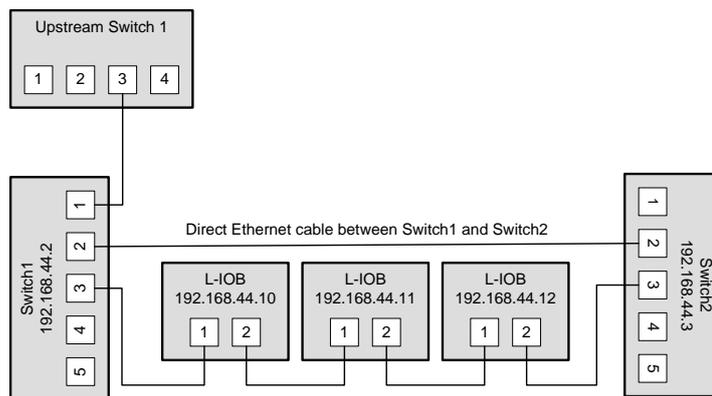

Figure 80: Single upstream connection.
**Single upstream connection:** Switch1 (or Switch2, but not both) is connected to the upstream network while Switch2 only provides a redundant path to the LOYTEC devices. The redundant path is created by a direct Ethernet cable between Switch1 and Switch2 which needs to be plugged into a lower-numbered port than the L-IOB devices are connected to. If this is not possible, the STP port priority for the cross-connection cable needs to be set to a low value. The RSTP domain should be restricted to Switch1 and Switch2. This can be done by enabling a BPDU filter on the port on Upstream Switch 1. This will block all RSTP packets to enter the upstream network. A sample setup for this topology is shown in Figure 80.